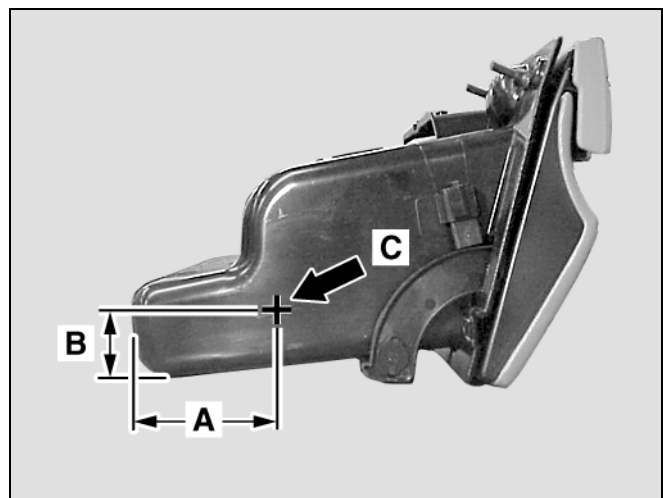

Figure 1
2. Measure and mark the glove compartment left side at the point where 80-mm (A, Figure 1) from the back edge and 30-mm (B, Figure 1) from the bottom edge meet.
3. Make an 18.8-mm hole at the measured mark (C, Figure 1).